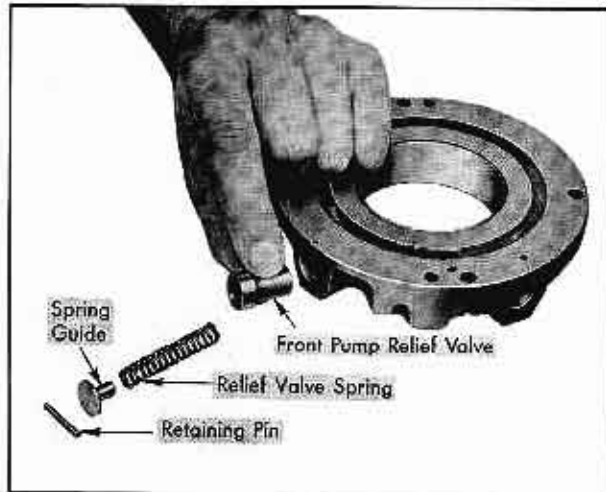

Fig. 14-49 Removing Relief Valve Spring and Guide
6. Remove guide, spring and valve. Fig. 14-49.